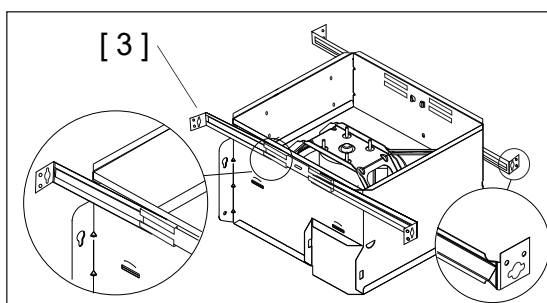

Fig 7
1. Insert two Brackets [3] to the duct side and two Brackets [3] to back of the Fan Body [1] as figure shows. (Fig 7)